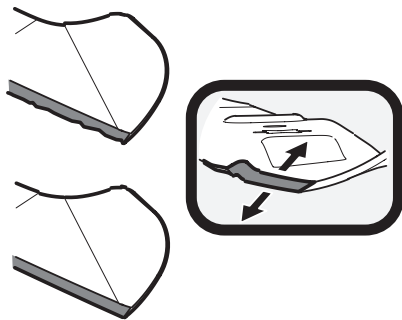

Figure 33
- To properly sharpen the cutting blades, remove equal amounts of metal from both ends of the blades along the cutting edges, parallel to the trailing edge, at a 25° to 30° angle. Always grind each cutting blade edge equally to maintain proper blade balance. See Figure 33.